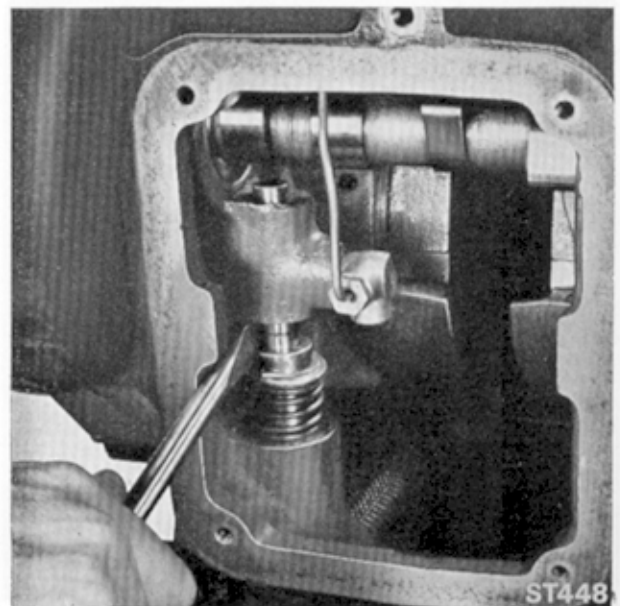

Fig. 52. Depressing Lubricating Oil Pump Spring
- (h) Set oil pump to the bottom of its travel and depress the lubricating oil pump return spring until pump tappet is below the level of camshaft bearing (Fig. 52).